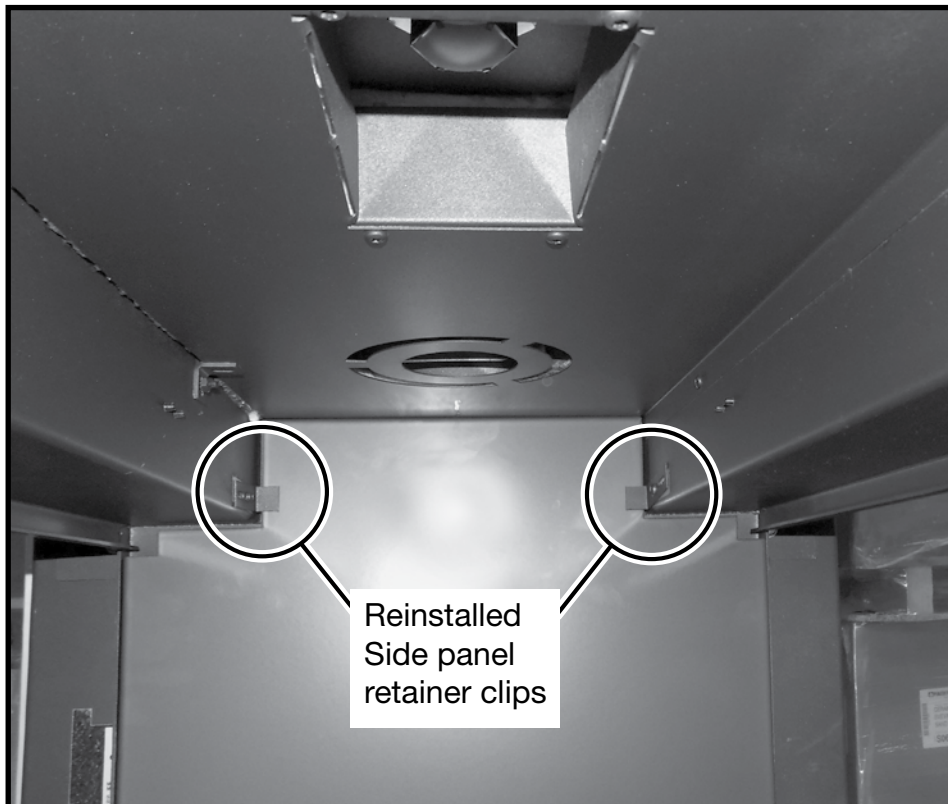

Figure 14: Reinstalled side panel retainer clips.
14. Reinstall the side panel retainer clips (Figure 14) .